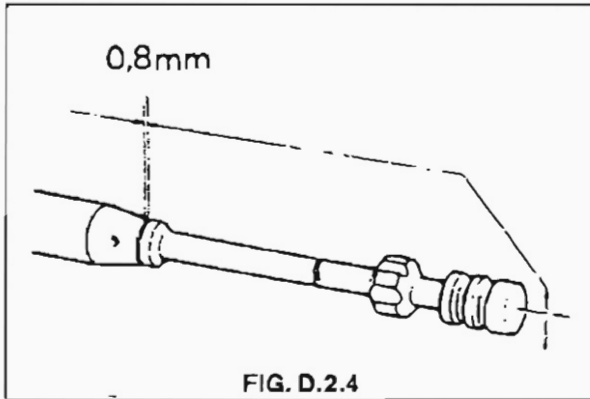

FIG. D.2.4
4. Screw the gas piston fully into the bolt carrier body until tight, then screw slightly until the pin hole in the gas piston aligns with the pin hole either side of the bolt carrier body. Insert the pin through the hole in the bolt carrier body and the gas piston. Check that the piston's free movement about its centre line is at least 0,8 mm. See Fig. D.2.4